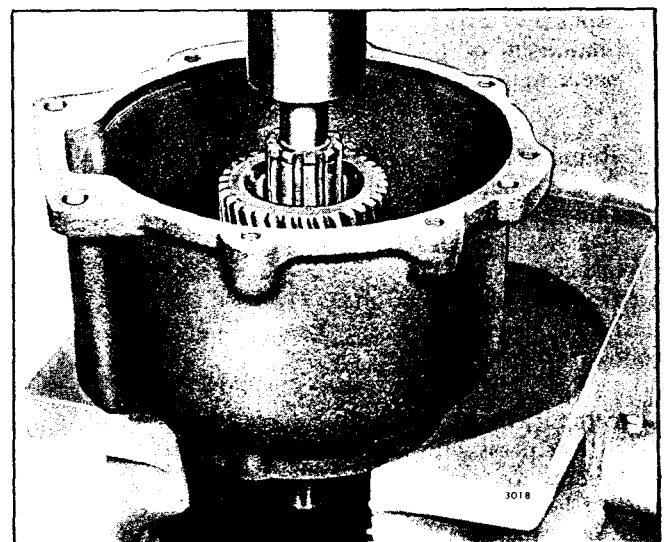

Fig. 37 - Removing Reduction Gear Drive Shaft Roller Bearing Cone and Cup from Gear Housing (1.5:1 Ratio)
- c. Support the rear face of the reduction gear housing on the bed of an arbor press with the roller bearing cup over the opening in the bed of the press as shown in Fig. 37.
- e. Then press the roller bearing cup straight out of the reduction gear housing as shown in Fig. 37. Catch the roller bearing cup, cone and drive shaft by hand to prevent them from falling and being damaged.